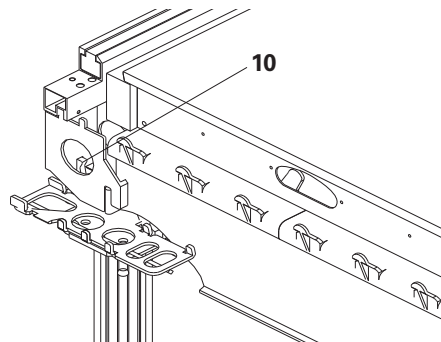

Fig. 40
- End Support SSL (10) (Fig. 40)